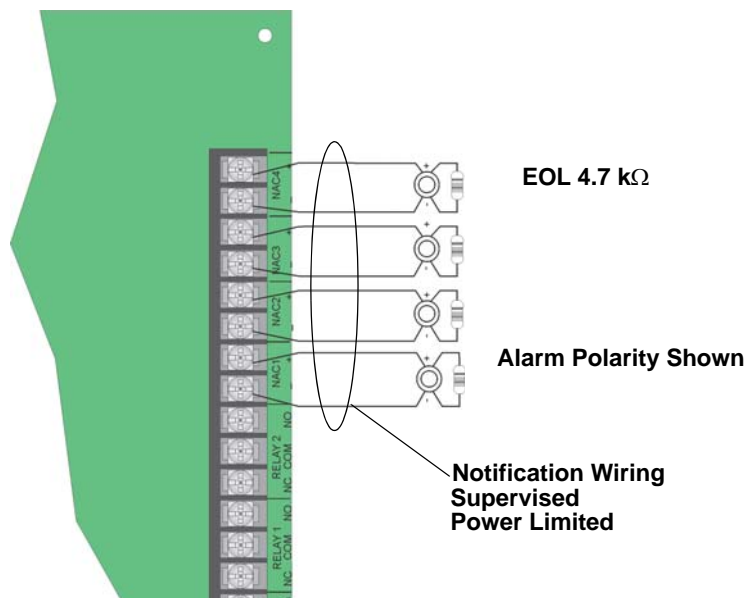

Figure 4.40 Class B Notification Appliance Circuit Wiring
1. Wire Class B Notification appliances as shown in Figure 4.40.